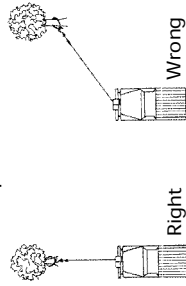

Figure 6
13. **AVOID CONTINUOUS PULLS FROM EXTREME ANGLES** as this will cause the wire rope to pile up at one end of the drum (Figure 6). This can jam the wire rope in the winch, causing damage to the wire rope or winch itself.